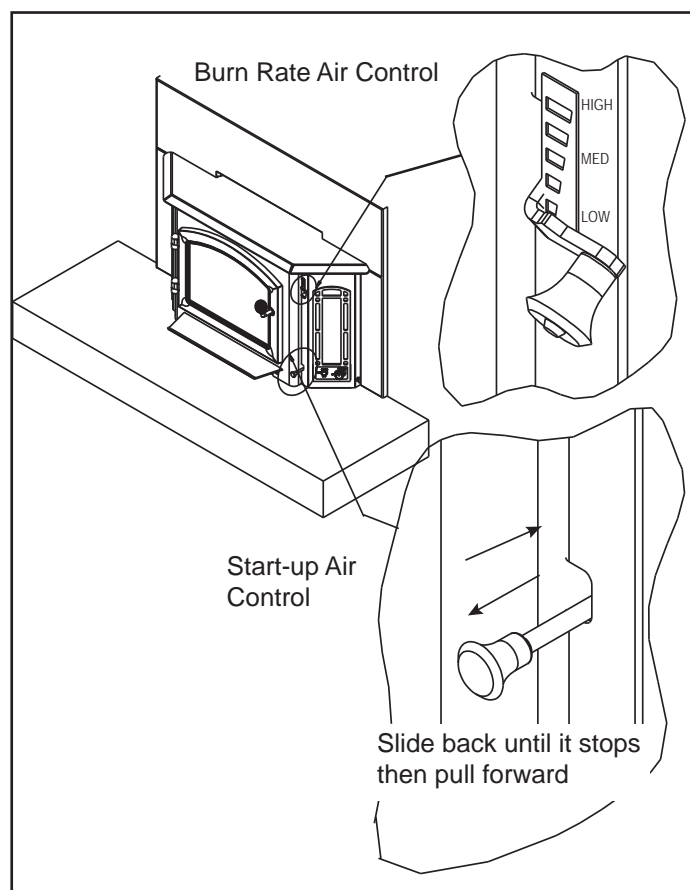

Figure 10.1 Start-up and Burn Rate Air Controls
The air control located at the upper right hand corner is used to adjust for burn rates. This is called the Burn Rate Air Control. **Figure 10.1 on page 10.**
- Push the Start-Up Air Control all the way back until it stops and then pull forward to the front of the appliance until it stops. **Figure 10.1.**
- The fire is now controlled by the air supplied by the Burn Rate Air Control. **Figure 10.1.**
- Push the Start-Up Air Control 3/8 inch (9.5mm) back to allow rear air to enter the firebox. **Figure 10.1.**